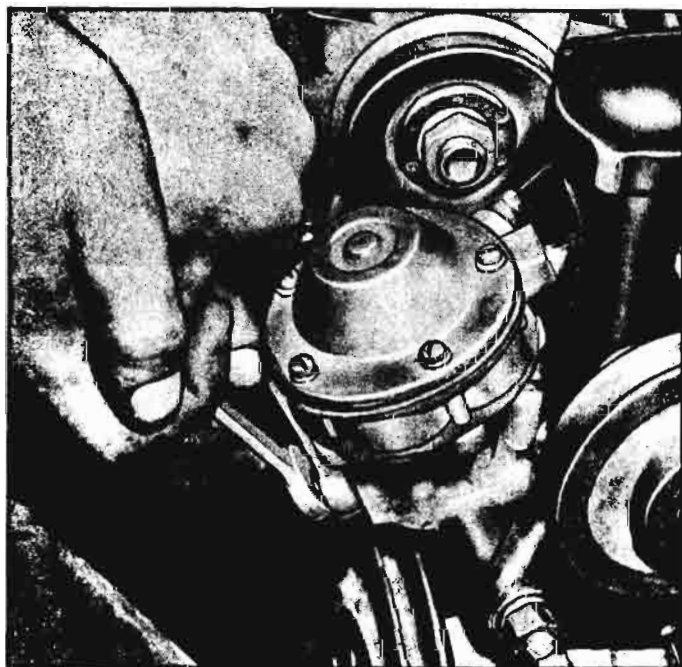

Fig. 9-34—Loosening Lock Nut
2. Loosen the jamb nut locking set screw in place and remove set screw (fig. 9-34).